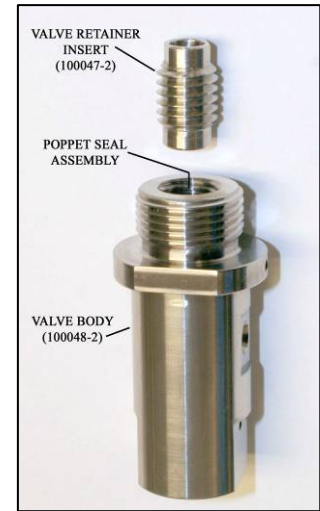

Figure 8
16. Apply a thin coat of Blue Goop (400001-1) to the threads of the Valve Retainer Insert (100047-2) Thread the Valve Retainer Insert into the top of the Valve Body. Torque to 8-10 ft-lbs (11-14 N-m). **See Figure 8.**